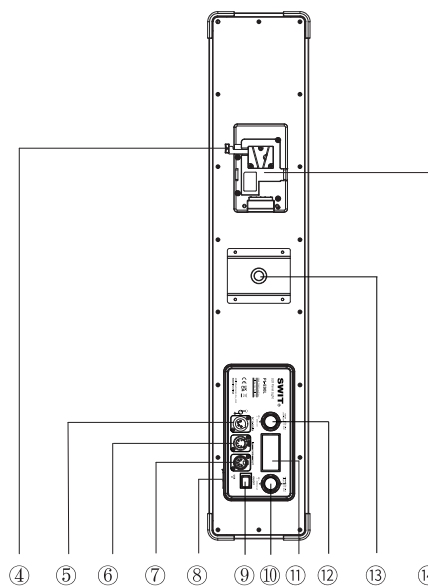

Fig.4 PL-E90L Back View
Connect battery with battery plate,(Fig.4 ⑭),hear the "Click" sound to complete the battery installation.
Push the lock rod(Fig.4 ④)to remove the battery from the plate.
The light provides two ways of adjusting the color temperature and brightness: normal adjusting mode and quick adjusting mode. User can switch the adjusting mode by press the dimmer knob and color temperature adjusting knob(Fig.4 ⑩/⑫).User can quickly set the dimmer and color temperature to their needs by combining two adjusting modes.
Hold the brightness adjust knob(Fig.4 ⑩)for 2s to enter in setting interface of communication address, communication address setting range:001-512.
The chosen number will show flashing backlight, turn brightness adjust knob(Fig.4 ⑩) left and right to set current number, press brightness adjust knob(Fig.4 ⑩)to confirm current number and set next number, after finish setting the last number, press brightness adjust knob(Fig.4 ⑩)or wait for about 5seconds to exit communication address setting.
Connect all the lights with DMX cable, hold the color temp adjust knob (Fig.4 ⑫) about 2s to complete the setting of communication mode.